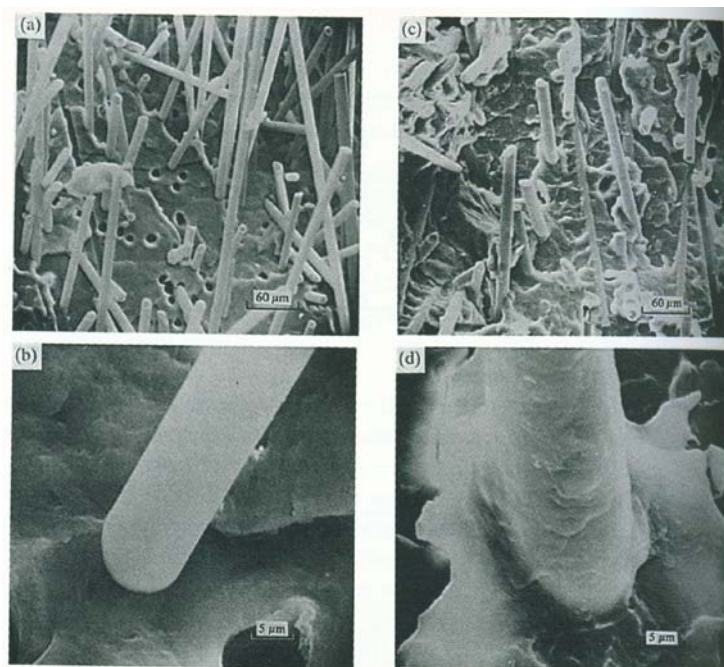

Figure 1 - SEM micrographs of fracture surfaces of polypropylene-glass fibers composites.
- [b] SEM micrographs of fracture surfaces of glass fiber reinforced polypropylene composites with and without a coupling agent are shown in Figure 1. These micrographs were obtained at low and high magnifications. State the differences between the composites in terms of fracture surface morphologies.